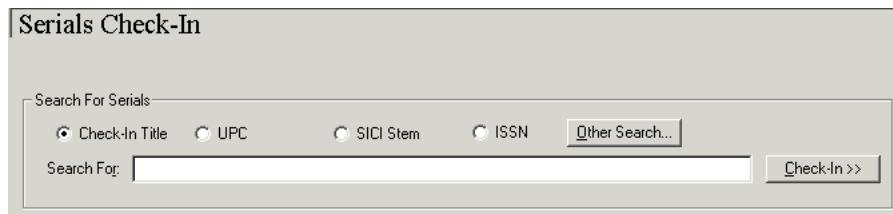

Figure 2-96. Serials Check-In search workspace
- The **Serials Check-In** button opens the **Serials Check-In** search workspace (see Figure 2-96)